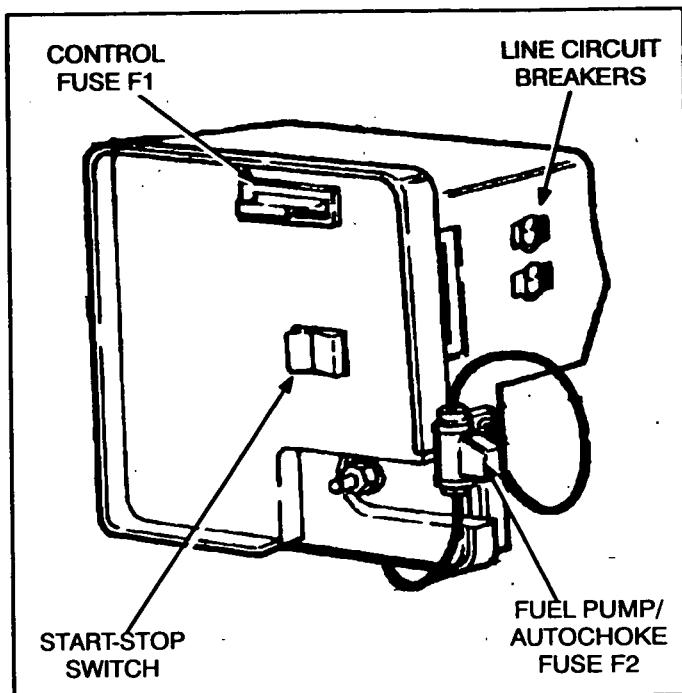

FIGURE 3. GENSET CONTROL PANEL
The genset control panel (Figure 3) and box include the following features:
3. Push and hold the genset or remote START switch (Figures 3 and 4) until the genset starts. (The remote START switch inside the pontoon boat cabin should have a lamp which lights to indicate that the genset has started and is running.)